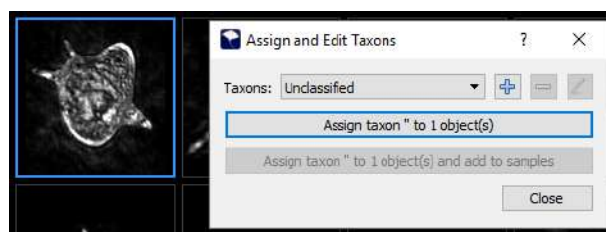

Figure 18: Creating and assigning Taxon to objects in the database
4. There are 2 options to assign the Taxon. The **Assign taxon '[taxa]'** to [#] object(s) button will simply assign a taxon to the object. The **Assign taxon '[taxon name]'** to [#] object(s) and add to samples button will classify the object and save the object as a sample (Figure 18). Samples will be used later to train the classifier.